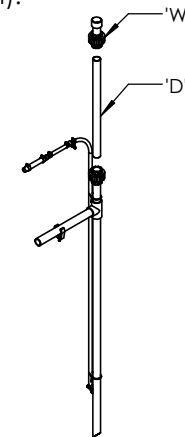

Fig. 4
- Fit the Sludge return extension 'D' onto the Airlift pipework (Fig. 4).